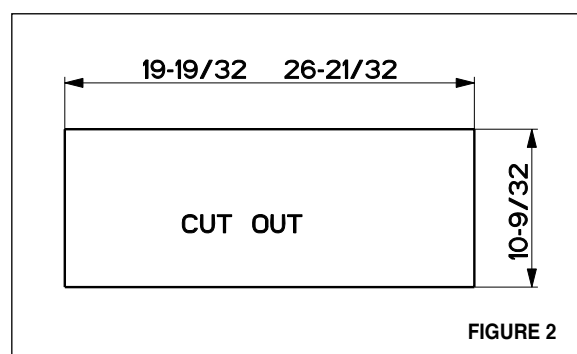

FIGURE 2
5. Make the cut-out opening where the rangehood will be installed (**FIGURE 2**). 26 21/32" WIDTH FOR 28" HOOD, 19 19/32" WIDTH FOR 24" HOOD.